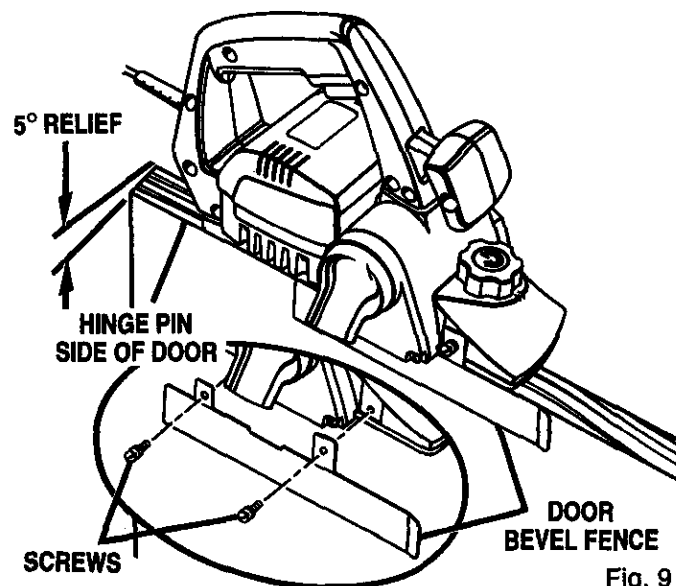

Fig. 9
See Figure 9.
2. Position door bevel fence as shown in figure 9 and align with screw holes on the right side of main shoe.